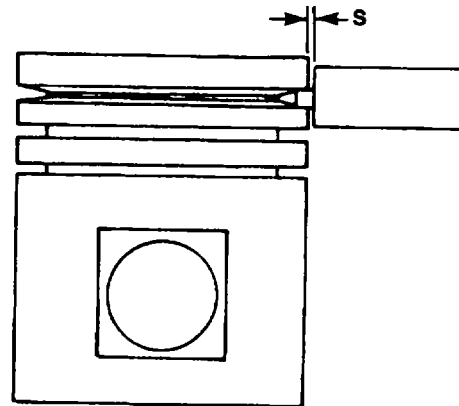

Figure 4-25. Axial Clearance for Trapezoidal Piston Ring
- g. Measure first piston ring groove, if trapezoidal, by means of trapezoidal groove wear gauge No. 003-0438. Note gap S (figure 4-25).